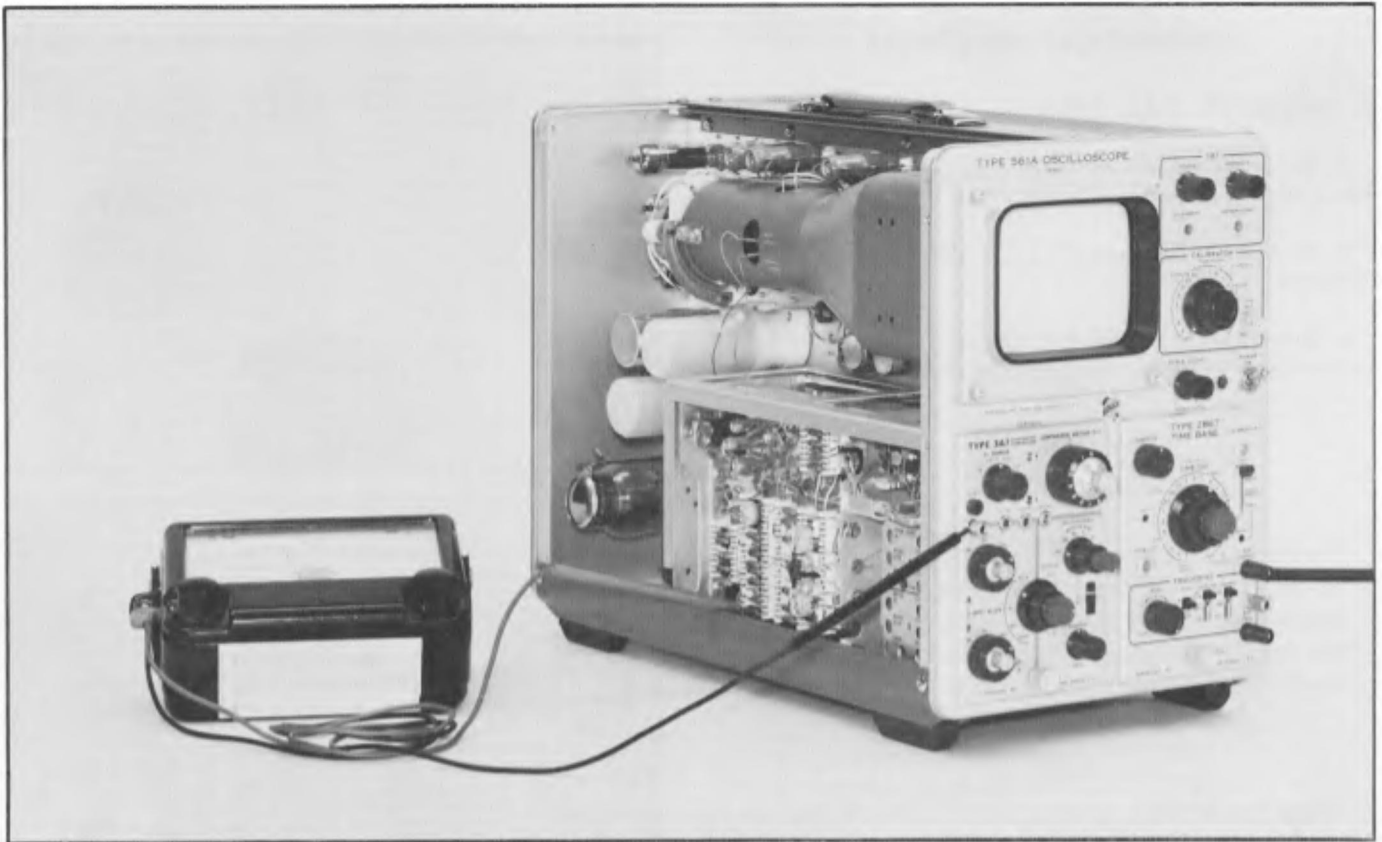
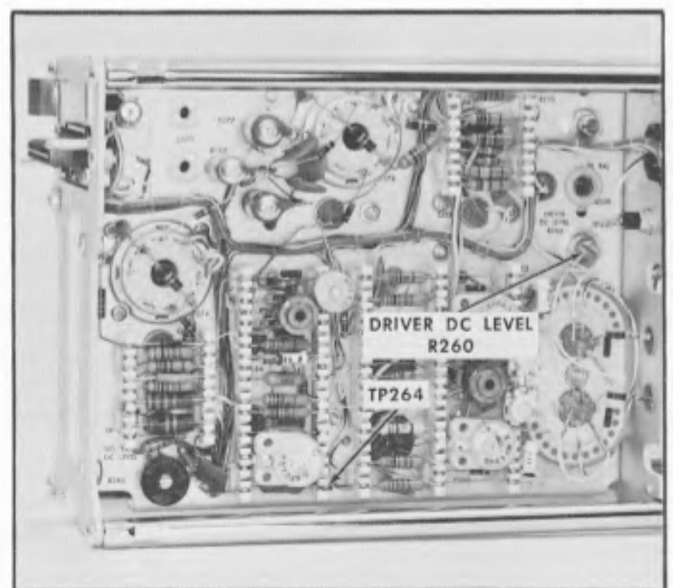

Fig. 5-6. Setup at completion of step 2a.
Fig. 5-7. Step 2 test point and adjustment locations.
a. Connect a dc voltmeter between TP264 and ground. Fig. 5-6 shows the complete setup and Fig. 5-7 shows the test point location.
b. Adjust the DRIVER DC LEVEL control R260 (see Fig. 5-7) to obtain a reading of exactly +59 volts on the voltmeter.
6. Adjust SIG/TRIG DC LEVEL R288 ①
- Connect a dc voltmeter between TP294 (see Fig. 5-10) and ground. The setup is similar to that shown in Fig. 5-6.